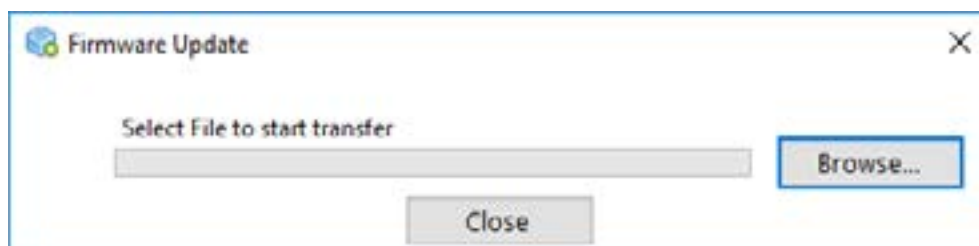

Figure 3.30 Firmware update - Selecting an update file
2. Select the update file by clicking on “Browse” (Fig. 3.30).